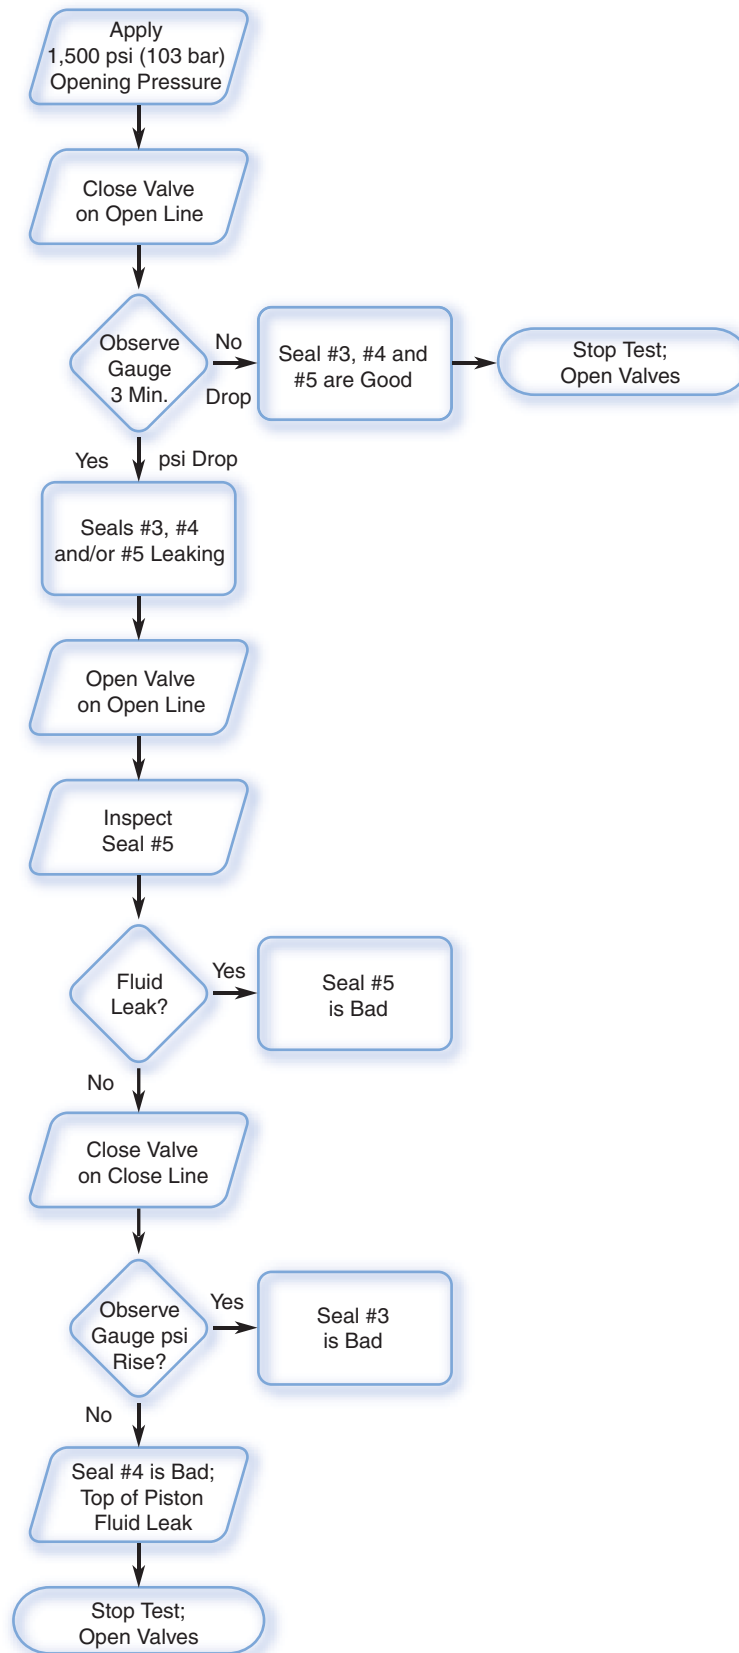

Figure 3-14. Opening Hydraulic Pressure Test Flowchart
7. Apply 1,500 psi (103 bar) opening pressure and inspect the lower housing bore area for the presence of hydraulic fluid (see Figure 3-14 on page 3-25). If seals #1 and/or #2 are leaking, proceed according to the section titled "Disassembly" on page 4-20 and the section titled "Replacing Seals" on page 4-29.
(Figure 3-14 through Figure 3-16)